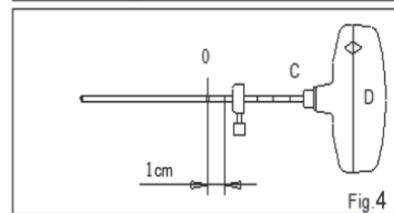

Fig.4
FIG. 4 Note: To replace the Stylet (B) in the Cutting Cannula (A), place first the Handle (F) on the luer end of the Cutting Cannula (A) by aligning tabs and slots. Then insert the Stylet (B) at a right angle to the assembled Cutting Cannula and Handle (A+F) and screw it until it clicks into place.
Note 1: Repeat process from Fig.4 if desired and anatomically safe.